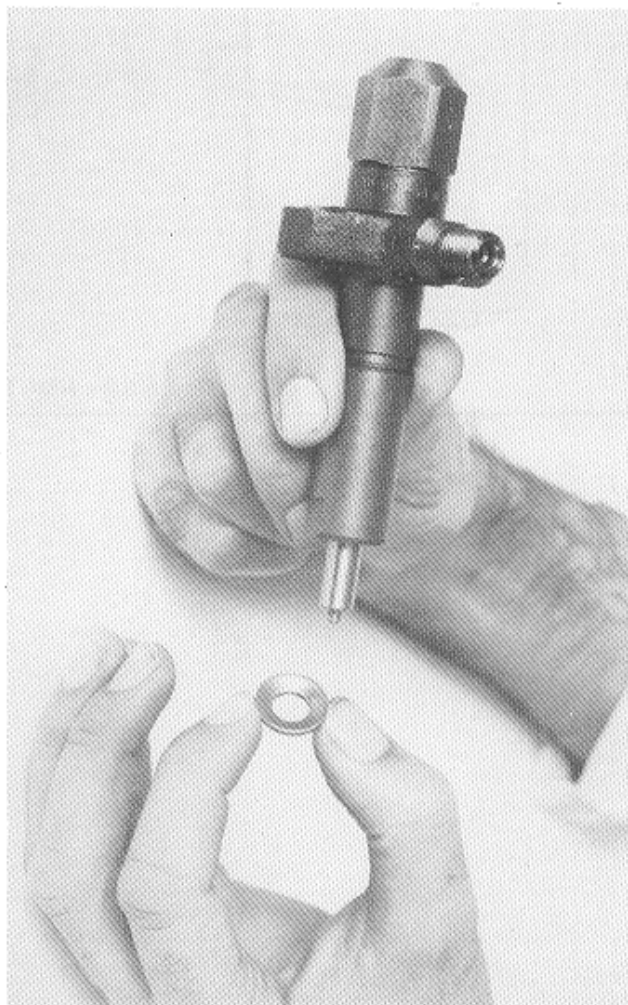

Figure 3.1 Fitting the Sealing Washer
- (1) Fit a new sealing washer on the injector with the concave side facing upwards as shown in Figure 3.1.